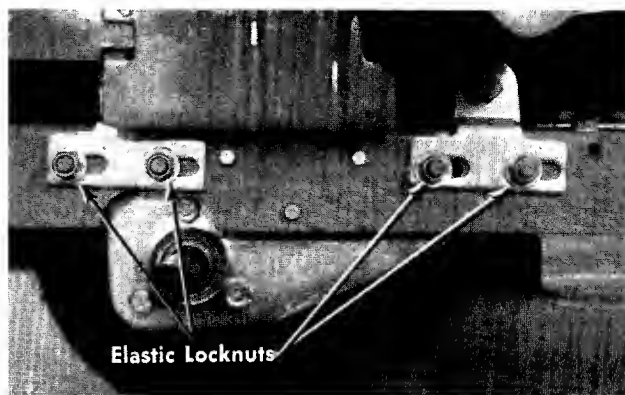

FIGURE 21. CHAIN ADJUSTMENT
- Step 3. Tighten elastic lock nuts securely. See figure 21.